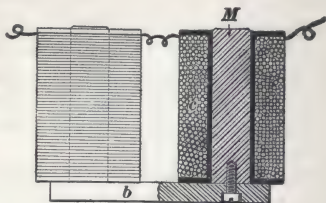
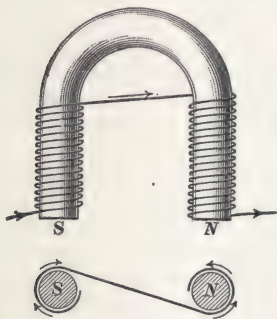

FIG. 29.
FIG. 30.
**32.** The most convenient form of electromagnet for a great variety of uses is the *horseshoe*, or *U-shaped*, electromagnet, Fig. 30. It consists of a bar of iron bent into the shape of a horseshoe with straight ends and provided with two magnetizing coils, one on each end of the magnet. The two ends which are surrounded by the coils are the *cores* of the magnet, and the arc-shaped piece of iron joining them together is known as the **yoke** of the magnet. The ordinary **U-shaped** electromagnet is made in three parts, namely, two iron cores wound with the magnetizing coils, and a straight bar of iron joining the two cores together for a yoke,
as shown in Fig. 29. In looking at the free ends of the two cores, Fig. 30, the current should circulate around one core in an opposite direction to that around the other. If the current circulates around both cores in the same direction, the lines of force produced in the two cores, respectively, oppose one another, forming two like poles at their free ends and a *consequent pole* in the yoke. The total number of lines of force produced by both coils will be greatly diminished,